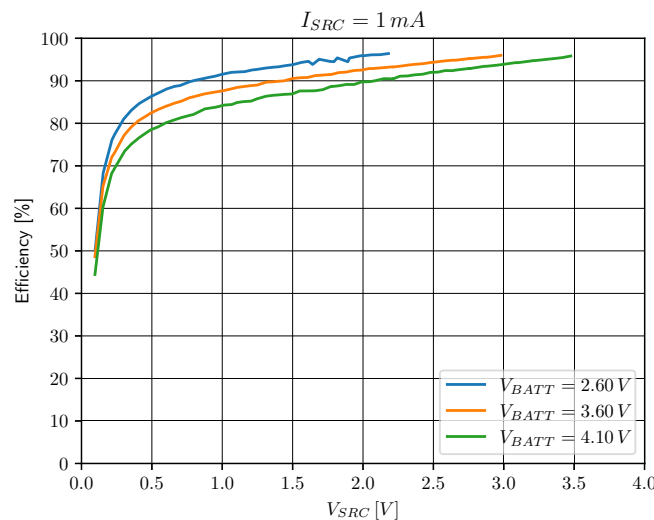

Figure 14: Boost efficiency for $I_{SRC} = 1$ mA, $L_{BOOST} = 10$ μH (Coilcraft LPS4018-103)
- The measurement must last long enough for the average values read on both SMUs to be stable. Figure 14 has been obtained by averaging over 100 measurements configured with a 200 ms integration time.